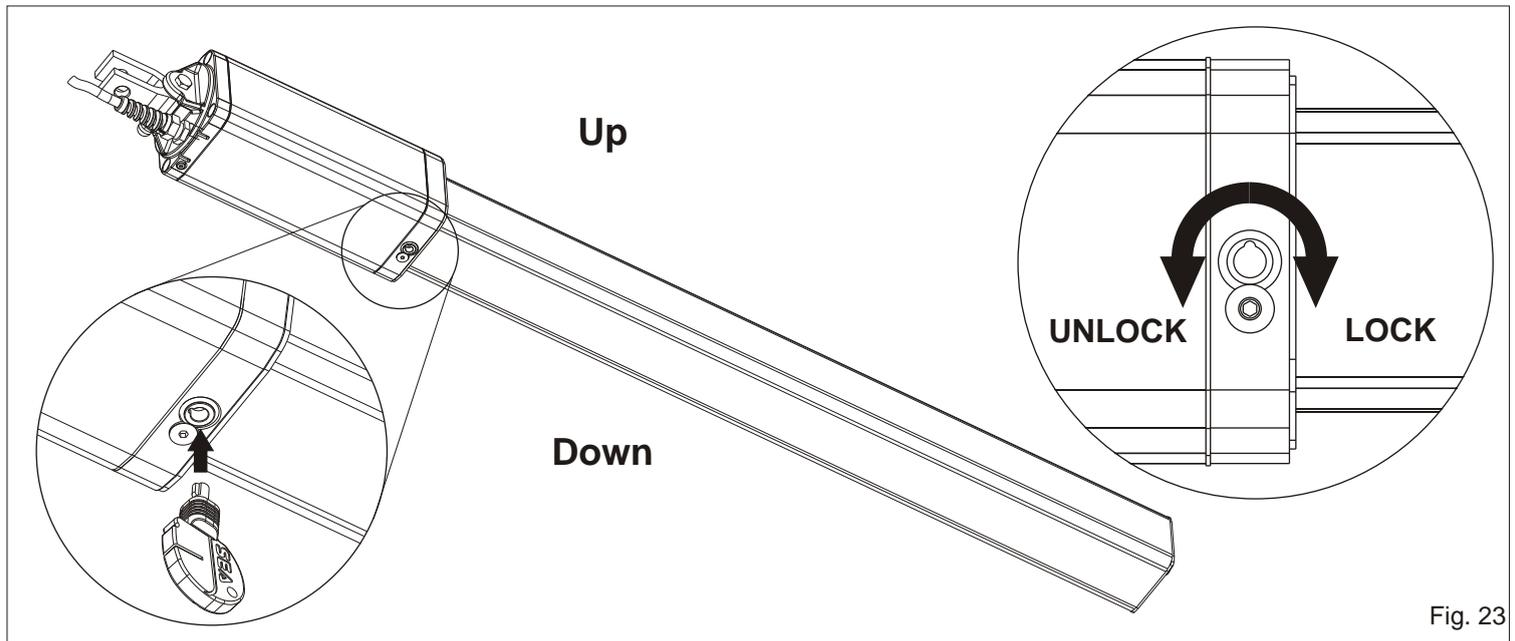

Fig. 23
1. Release the operator (as in fig. 23 pag.23)
- release the unit (as in fig. 23 of page 23)